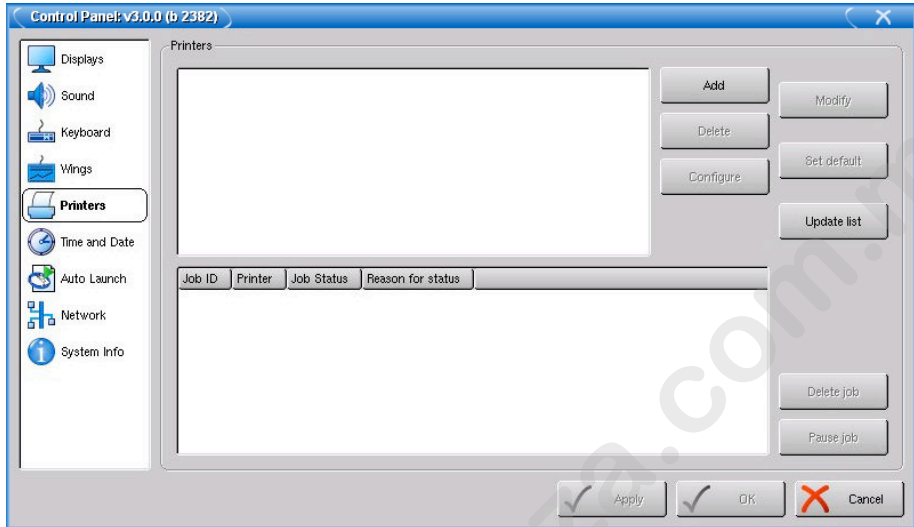

Figure 12.5. The Printers Pane of the Control Panel
1. Setup → Control Panel → Printers : open the Printers pane (see *Figure 12.5*, “The Printers Pane of the Control Panel”).
- Setup → Control Panel → Printers : open the Printers pane; see *Figure 12.5*, “The Printers Pane of the Control Panel”.
1. Setup → Control Panel → Printers : open the Printers pane; see *Figure 12.5*, “The Printers Pane of the Control Panel”.